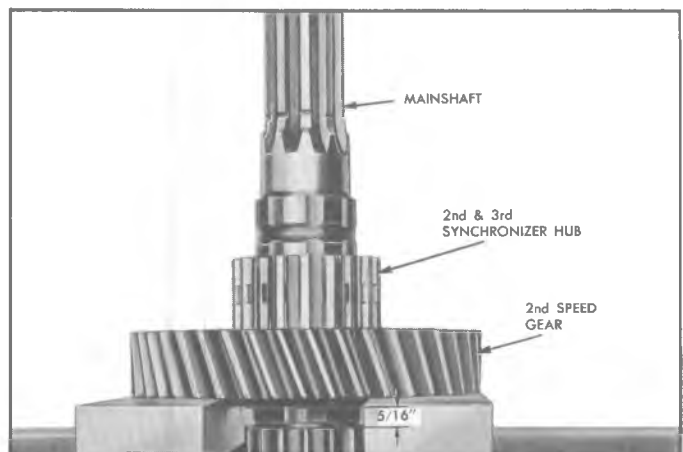

Fig. 9R—Removing Synchronizer Hub (Step 1)
- b. Support rear face of second speed gear on suitable press plates and press shaft to obtain 5/16" clearance between rear hub of second speed gear and forward end of splines on mainshaft (fig. 9R).